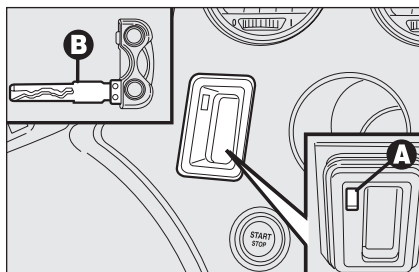

fig. 1
- ☐ fit the metal insert **B-fig. 1** of the electronic key into the slot **A**;
IMPORTANT Only fit the metal insert **B** of the electronic key into slot **A-fig. 1**.